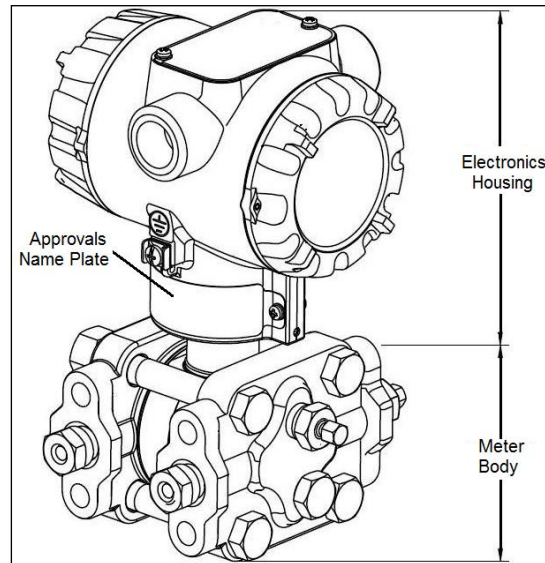
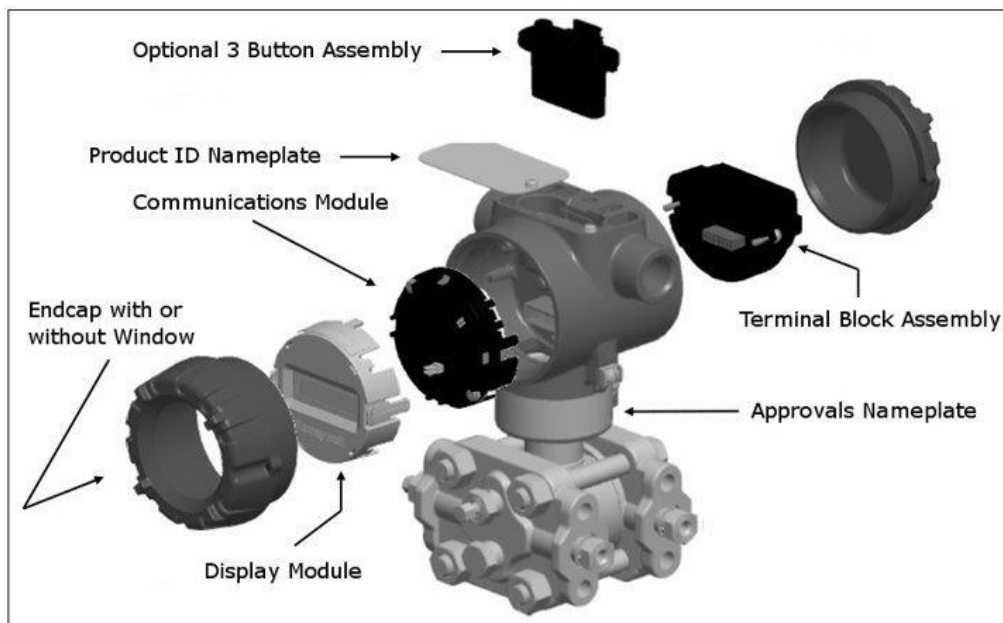
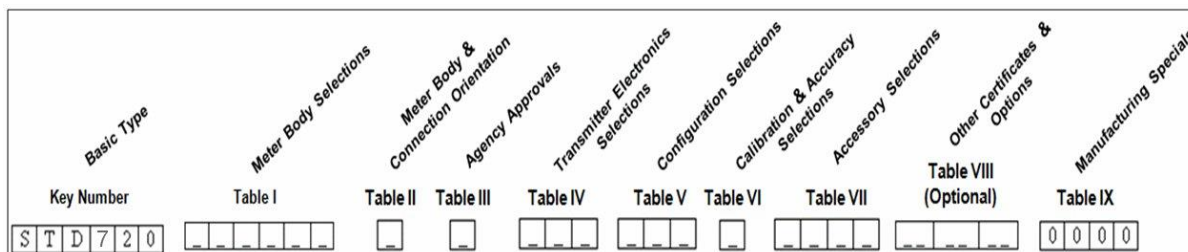

Figure 1 – ST 700 Standard Transmitter Major Assemblies
Figure 2 – ST 700 Standard Transmitter Electronics Housing Components
Figure 3 –ST 700 Standard Transmitter - Typical Name Plate
Look at the nameplate on top of the unit shown in Figure 3. Refer to the model number
As shown in Figure 1, the ST 700 standard is packaged in two major assemblies: the electronics housing and the meter body. The elements in the electronic housing respond to setup commands and execute the software and protocol for the different pressure measurement types. Figure 2 shows the assemblies in the electronics housing with available options.
The transmitter nameplate mounted on the bottom of the electronics housing (see Figure 1) lists its model number, physical configuration, electronics options, accessories, certifications, and manufacturing specialties. Figure 3 is an example of a typical Gauge Pressure (GP) or Atmospheric Pressure (AP) transmitter name plate. The model number format consists of a Key Number with several table selections. The Differential Pressure (DP), Absolute Pressure (AP), and Gauge Pressure (GP) name plates are essentially the same. The DP model provides one additional entry (7 vs. 6) in the meter body Selections (Table I) to accommodate the static pressure rating.
An “approvals” name plate is located on the bottom of the electronics housing assy; see Figure 1 for exact location. The approvals name plate contains information and service marks that disclose the transmitter compliance information.